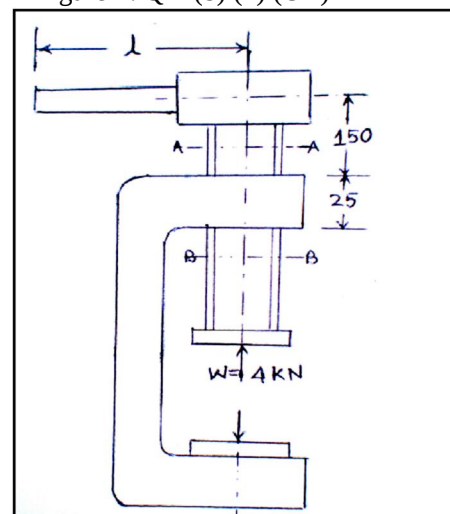

figure-4. Q-5 (a) (OR)
Q.5 (a) The following data refers to a C-clamp shown in figure-4